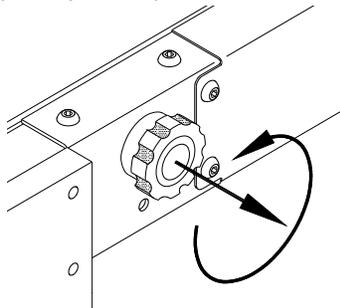

FIGURE 2-15: COUNTER-CLOCKWISE OPENS ROLLSTOP
- 3) Refer to **Figure 2-15**. Pull rollstop control knob out and rotate fully counter-clockwise. Rollstop must lie flat on ground.